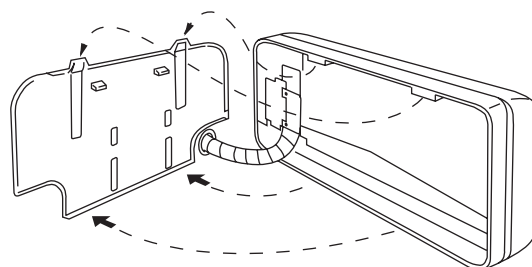

Fig. 36
- (2) Push the wiring, refrigerant tubing, and drain hose through the hole in the wall. Adjust the indoor unit so it is securely seated on the rear panel. (Fig. 36)
- (3) Carefully bend the tubing (if necessary) to run along the wall in the direction of the outdoor unit and then tape as far as the fittings. (See Caution on page 18.) The drain hose should come straight down the wall to a point where water runoff won't stain the wall.